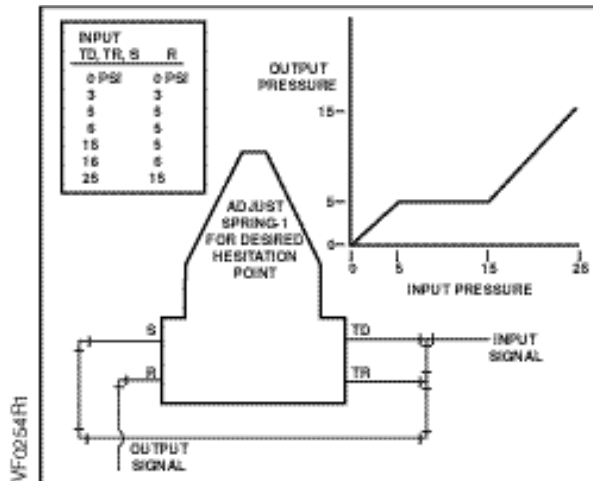

Figure 4. Hesitation Relay.
3. Hesitation relay (See Figure 4).